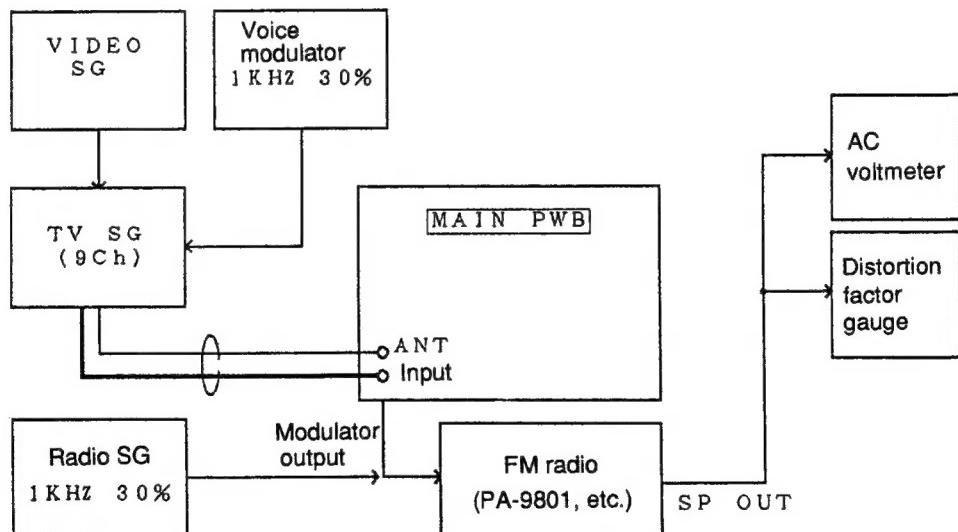

Fig. 5
(1) Prepare and connect the measuring instrument as shown in Fig. 5.
(2) TV SG setting